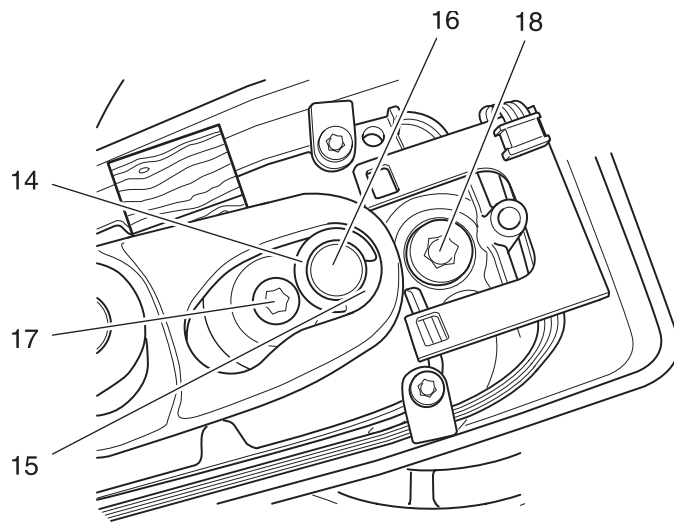

Fig. 1f
- Remove retaining washer 14 and remove needle bearing 15 from the crank 16 (fig. 1f).